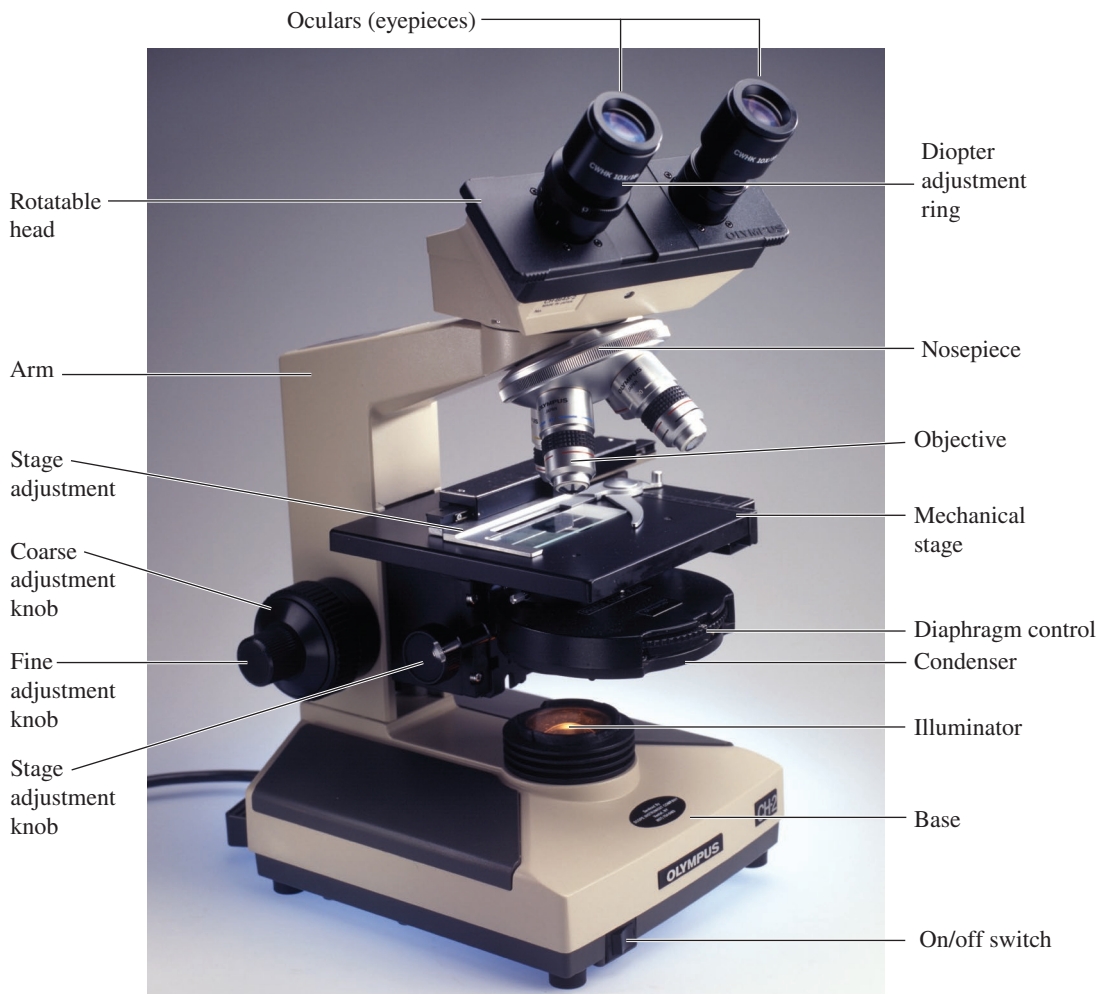

Figure 1.2 The compound microscope.
**Light Source** In the base of most microscopes is positioned some kind of light source. Ideally, the lamp should have a **light intensity control** to vary the intensity of light. The microscope in figure 1.2 has a knurled wheel on the right side of its base to regulate the voltage supplied to the lightbulb.
The **ocular**, or eyepiece, is a complex piece, located at the top of the instrument, that consists of two or more internal lenses and usually has a magnification of 10 $\times$ . Most modern microscopes (figure 1.2) have two ocular (binocular) lenses.
from the lamp to the slide being studied. Unlike the ocular and objective lenses, the condenser lens does not affect the magnifying power of the compound microscope. The condenser can be moved up and down by a knob under the stage. A **diaphragm** within the condenser regulates the amount of light that reaches the slide. Microscopes that lack a voltage control on the light source rely entirely on the diaphragm for controlling light intensity. On the Olympus CH2 microscope in figure 1.2, the diaphragm is controlled by turning a knurled ring. On some microscopes, a diaphragm lever is present. Figure 1.2 illustrates the location of the condenser and diaphragm.
To make diopter adjustments, one focuses first with the right eye only. Without touching the focusing knobs, diopter adjustments are then made on the left eye by turning the knurled **diopter adjustment ring** (figure 1.2) on the left ocular until a sharp image is seen. One should now be able to see sharp images with both eyes.